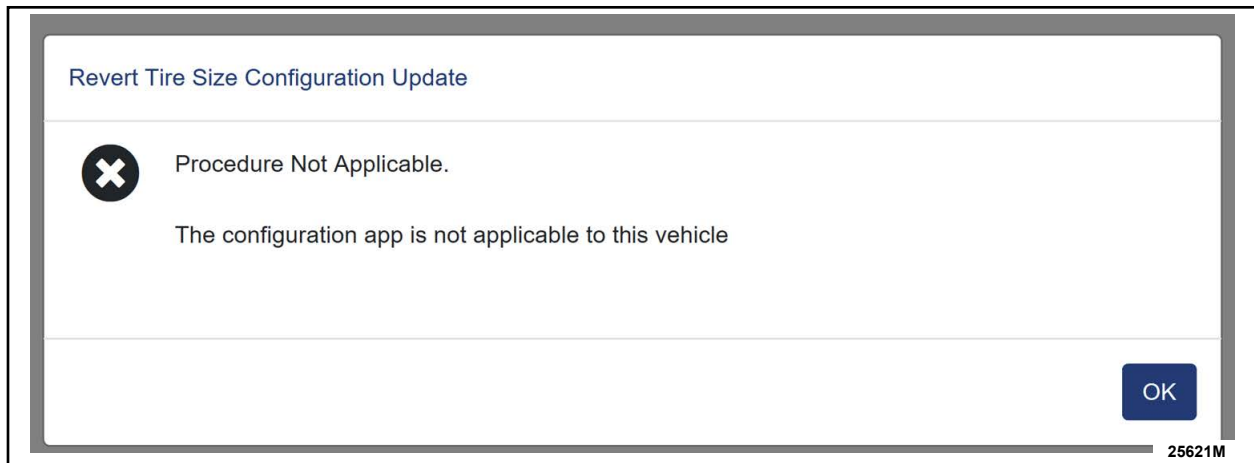

FIGURE 9
20. Was a **Procedure Not Applicable** displayed on the screen as shown in Figure 9?